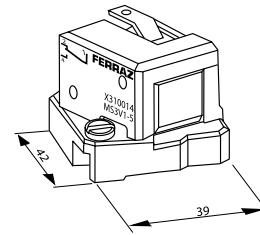

Fig. 1
(3) Same as fig. 1
(4) Same dimensions as fig. 1 but with 2 microswitches side by side
(9) Watertightness class